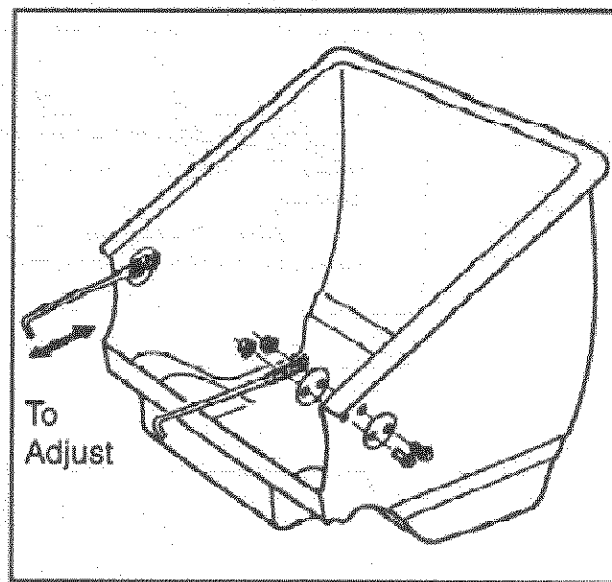

Fig. 2
1. SEE FIG. 2: Loosen catcher hook, nuts and bolts.